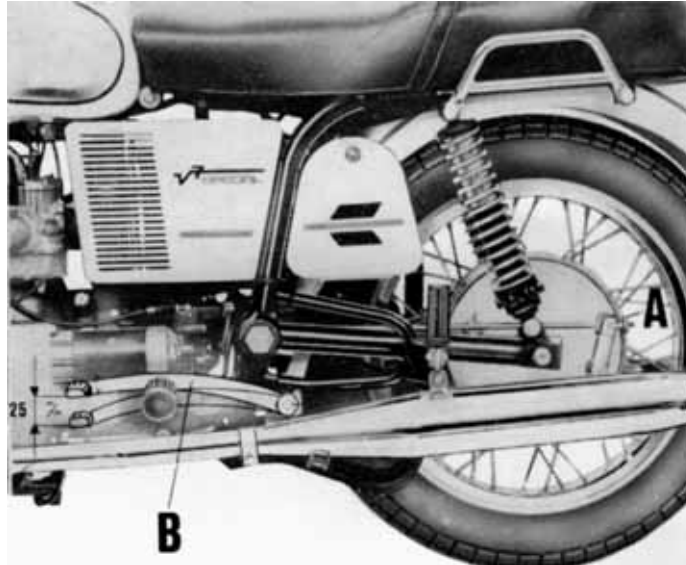

Fig. 24
**Rear brake pedal (See fig. 24)**